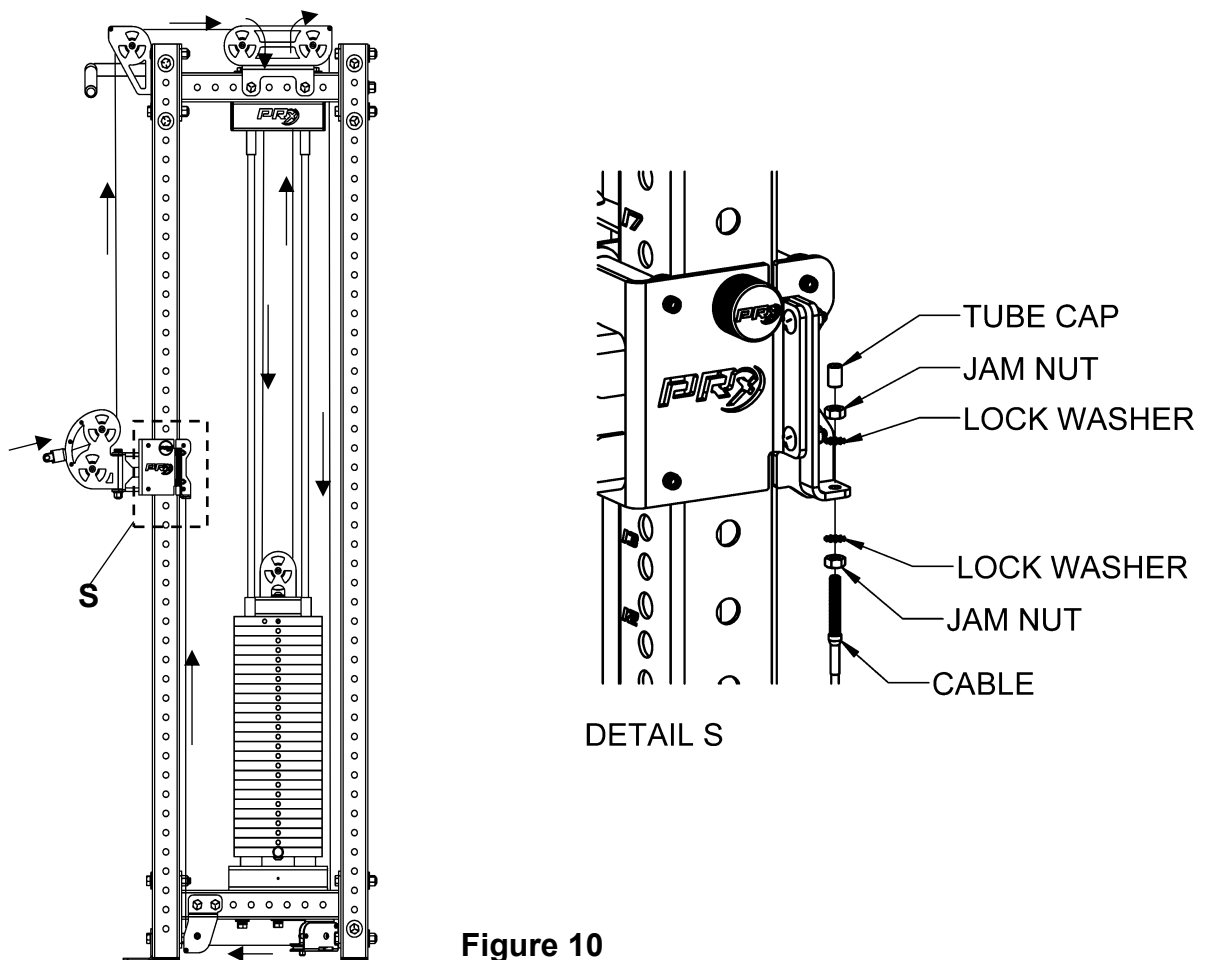

Figure 10
1. Remove the hardware from the threaded end of the cables, then begin by threading the cables through the pulley sheaves and brackets. Follow the path of the arrows shown in **Figures 10 and 11**.
2. Attach the threaded end to the bottom of the trolleys with the hardware shown. **Figure 10, Detail S** After adjusting to achieve your desired cable stop tension on the trolley, firmly tighten the top and bottom jam nuts against each other. Periodically inspect the jam nuts to ensure they remain secure and haven't loosened over time.